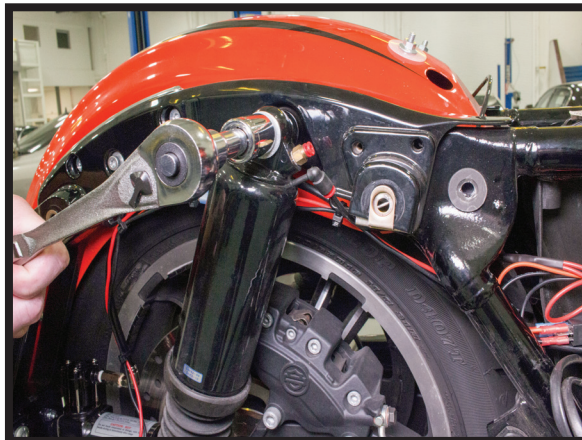

FIGURE 3
2. REMOVE THE SHOCKS AND THE FACTORY AIR LINES. (FIGURE 3)